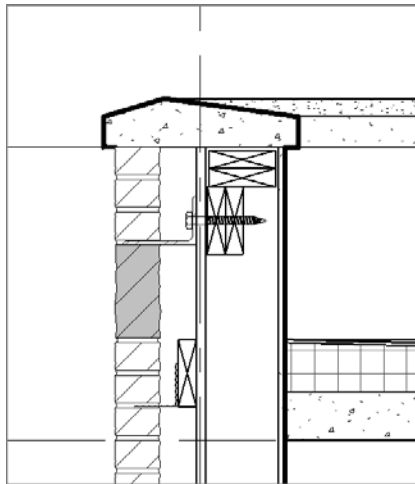

FIGURE 12.43: Copy the blocking as shown.
6. Copy the blocking down to double it, as shown in Figure 12.43.
7. Copy and rotate the blocking to the positions shown in Figure 12.43 to allow for support of the lag bolt.
9. Compare your detail to Figure 12.43.